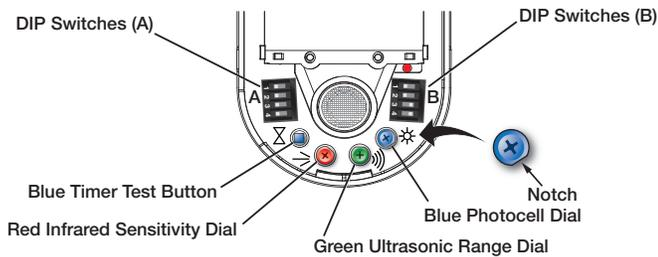

Figure 2. OCS 100W Controls
- **Green Ultrasonic Range Dial** (see figure 2 on the previous page) — Adjust this dial to increase or decrease ultrasonic sensitivity.
- Turn clockwise (CW) to increase sensitivity.